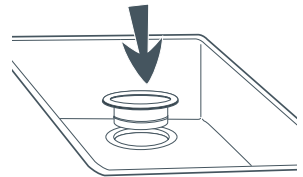

Fig. 4 Fitting the flange into the sink drain hole
- 3 Apply a small amount of plumbers putty to the lip of the flange and position the sink flange into the sink drain hole ensuring that the rubber gasket on the underside of the sink flange is firmly in place (fig.4).